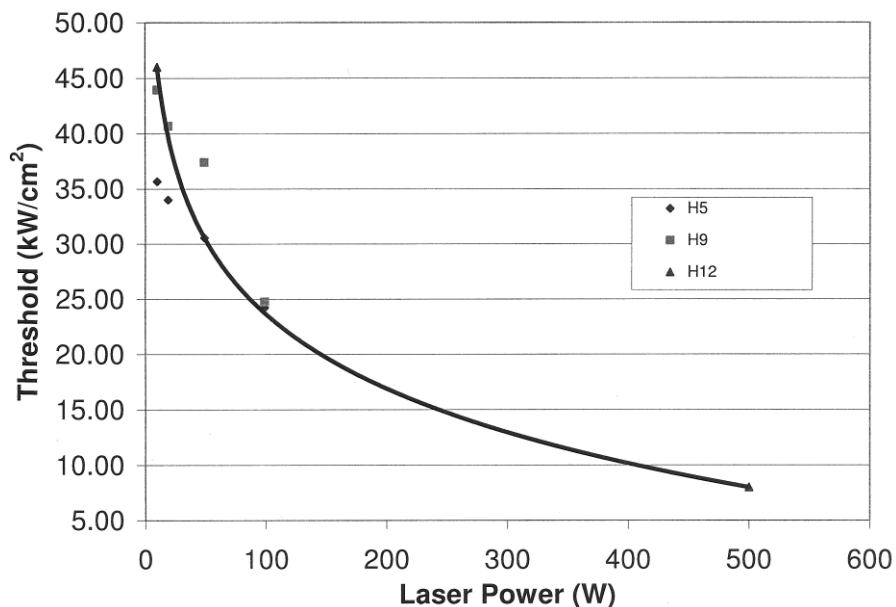

FIG. 1-8 MAX AVERAGE POWER DENSITY FOR UP WITH H-TYPE ABSORBER AT 1.064  $\mu$ m.
The UP with amplification has 3 holes on top of the detector for the UP12E, UP19K and the UP25Z(T) and on the left side of the detector for the UP25N(M), UP50N(M), UP55N(M) and the UP60N(M) giving access to the potentiometers to adjust the gain, the anticipation and the offset, as shown in figure 1-8.